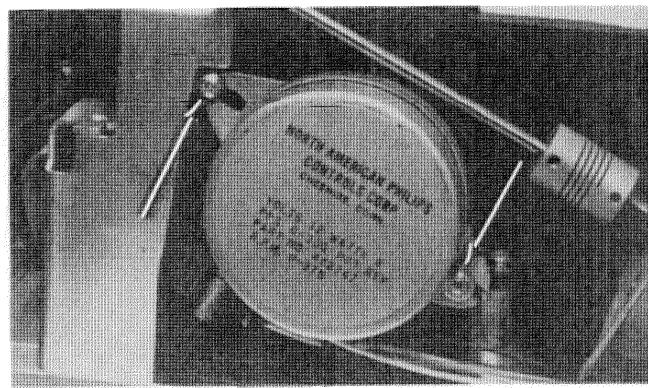

Figure 6-6. Paper-Advance Motor Screws
a. Loosen the two screws securing the paper-advance motor to the printer, using a #1 Pozidriv screwdriver. (See figure 6-6.)